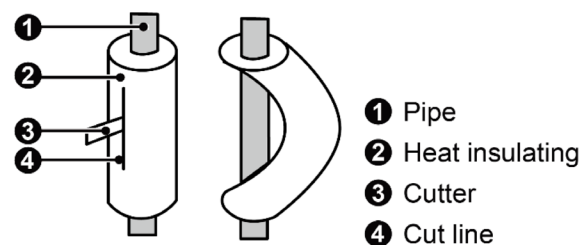

Figure 4.4b
4. When bending the pipe, excessively bending the pipe will cause it to break. As shown in Figure 4.4b, use a sharp tool to cut the heat insulating layer around the pipe and bend it once the pipe is exposed. After bending, place the heat insulating later back on the pipeline and secure it with adhesive tape.